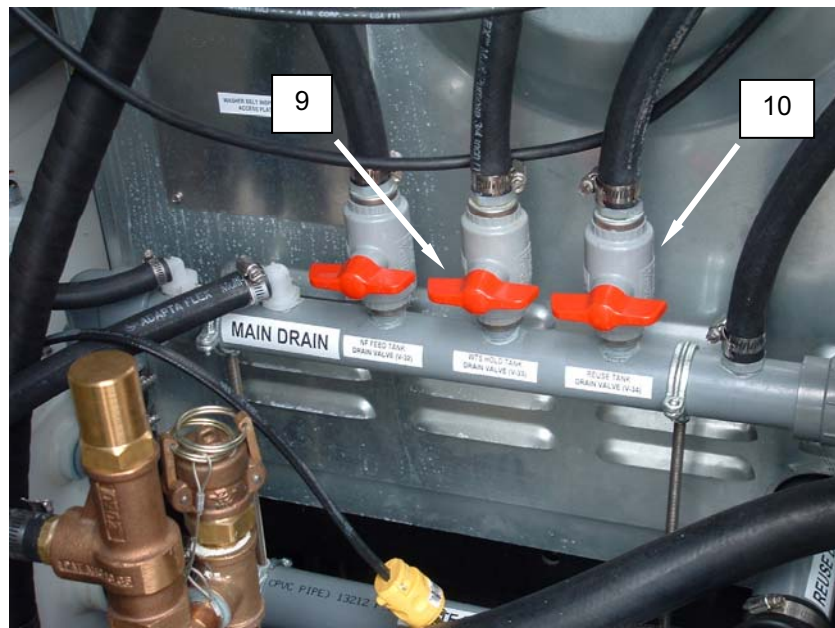

Figure 7. Nanofilter Cleaning Procedure – Drain Tanks.
10. Monitor the operation of Pump P-3 at the PLC (**Figure 7, Item 8**). When P-3 has shut off and the WTS Hold Tank is empty, open WTS Hold Tank drain valve V-33 (**Figure 7, Item 9**) and Reuse Tank Drain Valve V-34 (**Figure 7, Item 10**).